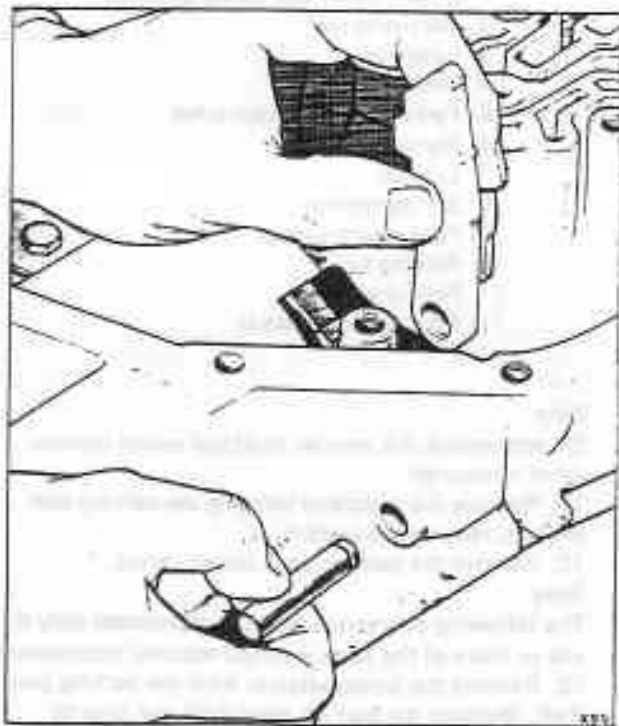

Fig. T17-3 Fitting the parking pawl and shaft
1. Fit the parking pawl with the tooth towards the centre of the transmission, then fit the parking pawl shaft (see fig. T17-3).